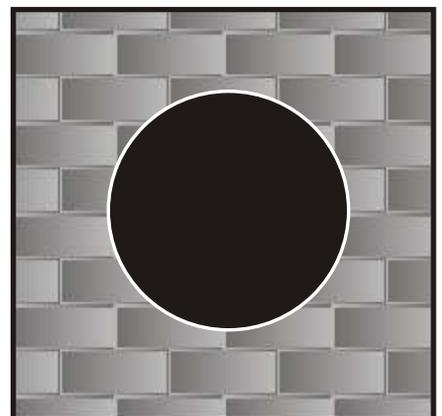
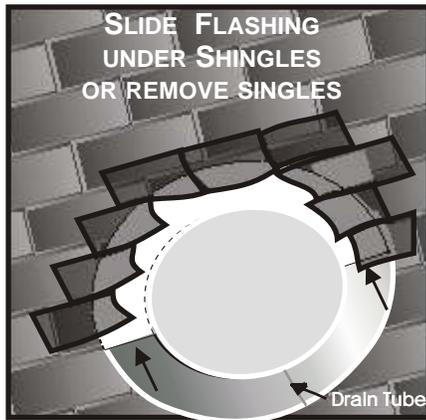

Figure 6
Figure 7
6. Locate the roof hole center point on the roof. Using the compass, draw a circle (Fig 5) the right size for your unit (8" compass hole for the 5 1/2", 13" compass hole for 8" unit or 17" compass hole for 13" unit). Hold the compass vertical. The circle will be oval on a pitched roof. Cut with your reciprocal saw (Fig. 6) through the roofing and roof boards. It may be necessary to drill a pilot hole to start your cut. Take care not to let the cutout drop through to the ceiling. It can damage your ceiling. You will need to cut the shingles to fit the outside of the flashing. (It may be necessary to remove some of the shingles on the top side of your hole). Now slide the flashing under the shingles, taking care as not to damage the black paper under the shingles (Fig. 7).